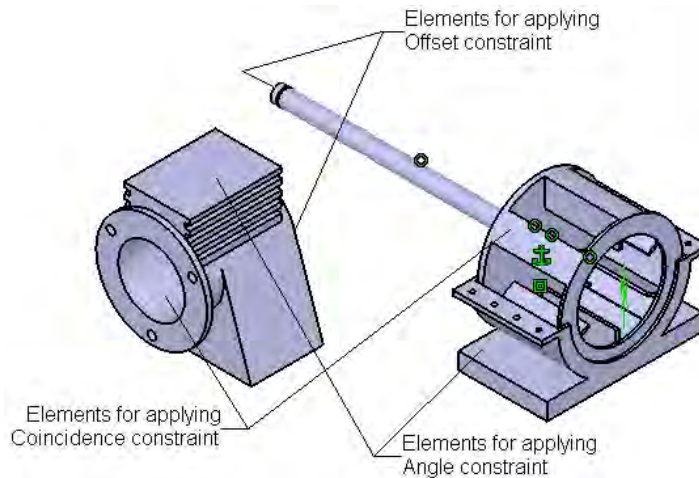

Figure 11-76 Elements to be selected for applying various constraints
2. Now apply the **Offset** constraint between the faces shown in the Figure 11-76. Set the **Orientation** to **Same** and the **Offset** value **zero**.
3. Apply the **Coincidence** constraint between the axis of the shaft and the axis of the hole on the back side of the Motor, refer to Figure 11-76. After applying both the constraints, update the model.
4. Choose the **Angle** button from the **Constraints** toolbar. Select the faces, as shown in Figure 11-76. Select the **Parallelism** radio button to make the selected faces parallel.